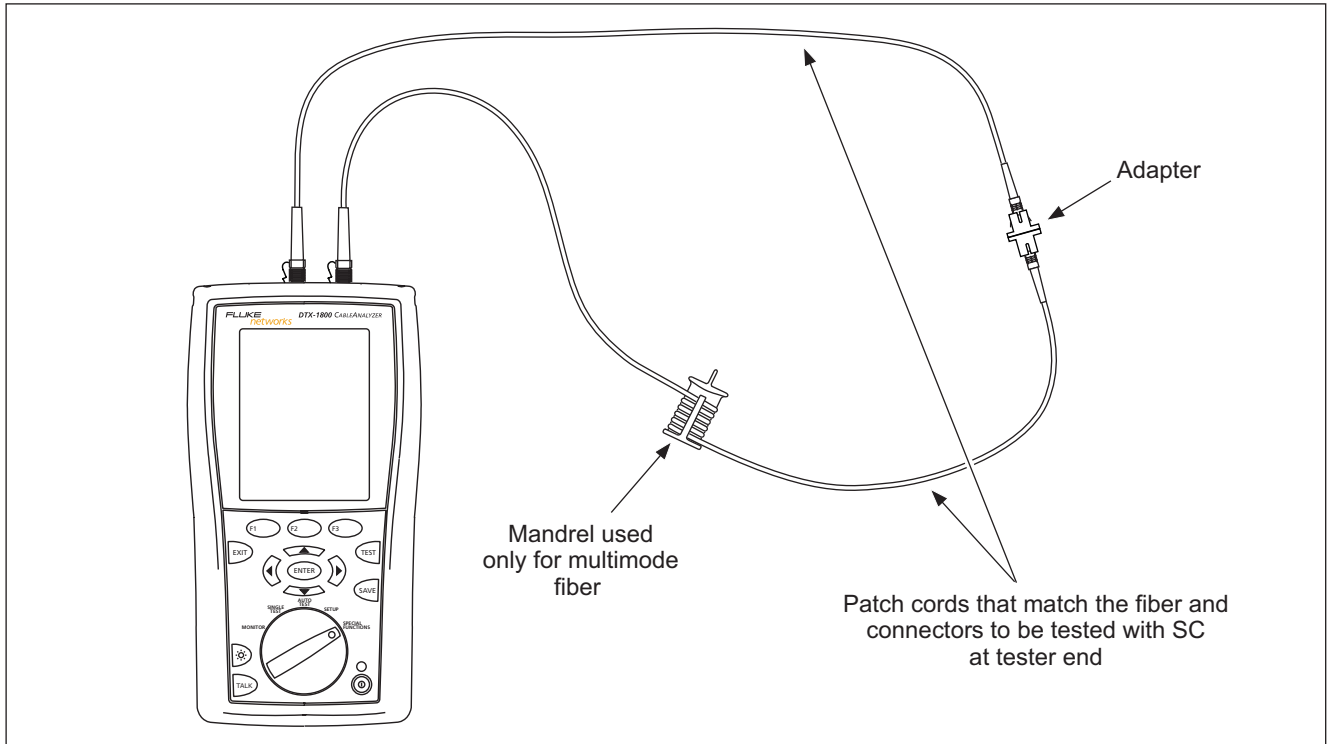

Figure 5-11. Loopback Mode Reference Connections (Modified Method B)
*The **Set Reference** screen shows reference connections for the selected test method. Figure 5-11 shows connections for modified Method B.*